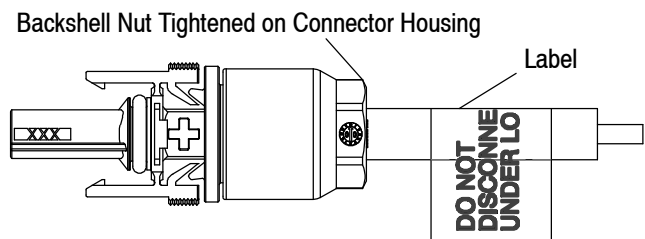

Figure 8
5. Screw backshell nut onto connector housing. See Figure 8. Tighten backshell nut to a torque (maximum: 1.5 Nm [13.3 lb-in.]) dependent on wire insulation diameter. See Figure 9 for specific tightening torque value based on wire insulation diameter. Identify plug connector with label reading "DO NOT DISCONNECT UNDER LOAD" as shown in Figure 8.